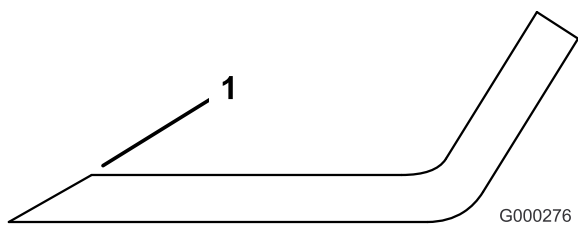

Figure 59
1. Use a file to sharpen the cutting edge at both ends of the blade (Figure 59). Maintain the original angle. The blade retains its balance if the same amount of material is removed from both cutting edges.